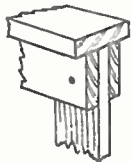

Fig. 7
The trellis work is formed from laths about 1 1/2ins. by 3/4in. made up in panels and fixed to the gate-posts and to the intermediate posts described earlier. The upright laths should be spaced about 4ins. apart, while the horizontal laths are spaced to get the best effect according to the lettering shown in Fig. 2. Those at (A) should be spaced 2ins. apart, (B) 2 1/2ins. apart, (C) 2 1/2ins. apart, (D) 3ins. apart, (E) 3 1/2ins. apart and (F) 3 1/2ins. apart. All laths must be firmly nailed at the crossings, and the top of each panel finally reinforced by an additional lath put on as a capping (See Fig. 7.) A spline, shown dotted in Fig. 2, should be nailed very firmly to the outer side of the gate-posts to take the first lath of the lattice-work panels. Strong hinges should be used for hanging the gate. All the lathwork should be well creosoted, while the gate and two posts might be painted green. (S.W.C.)